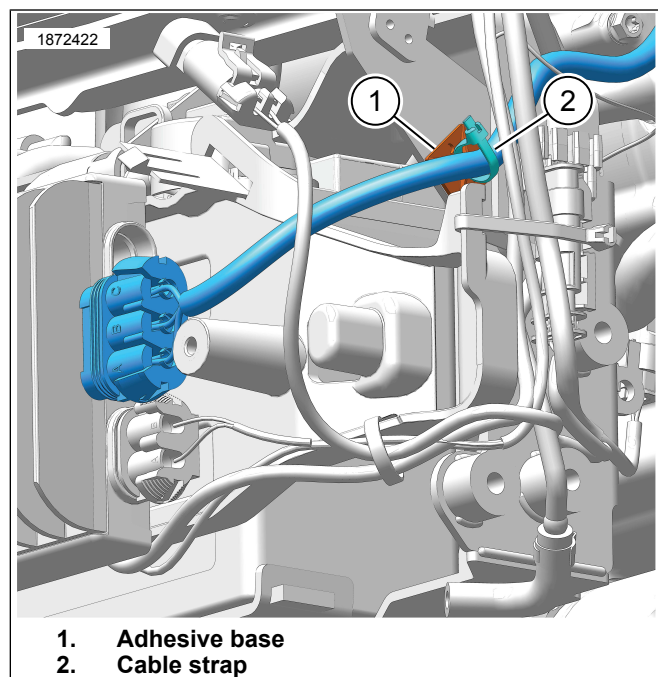

Figure 2. RH975/S and RH1250S
3. See Figure 2. **RH975/S and RH1250S**: Install adhesive base (1) to battery box.
4. Route stator cable and secure cable strap (2) as shown.